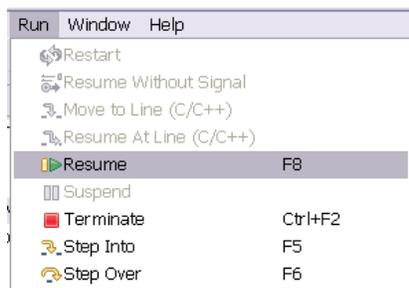

Figure 51 Select Resume
- From **Run** menu select **Resume**, as shown in Figure 51.